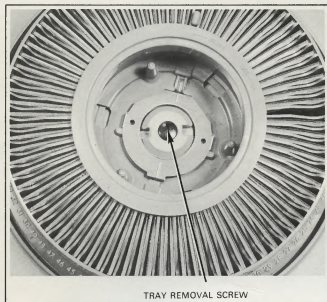

FIG. 8
1. Turn the coin-slotted TRAY REMOVAL SCREW (Figure 8) in either direction as far as it will go.